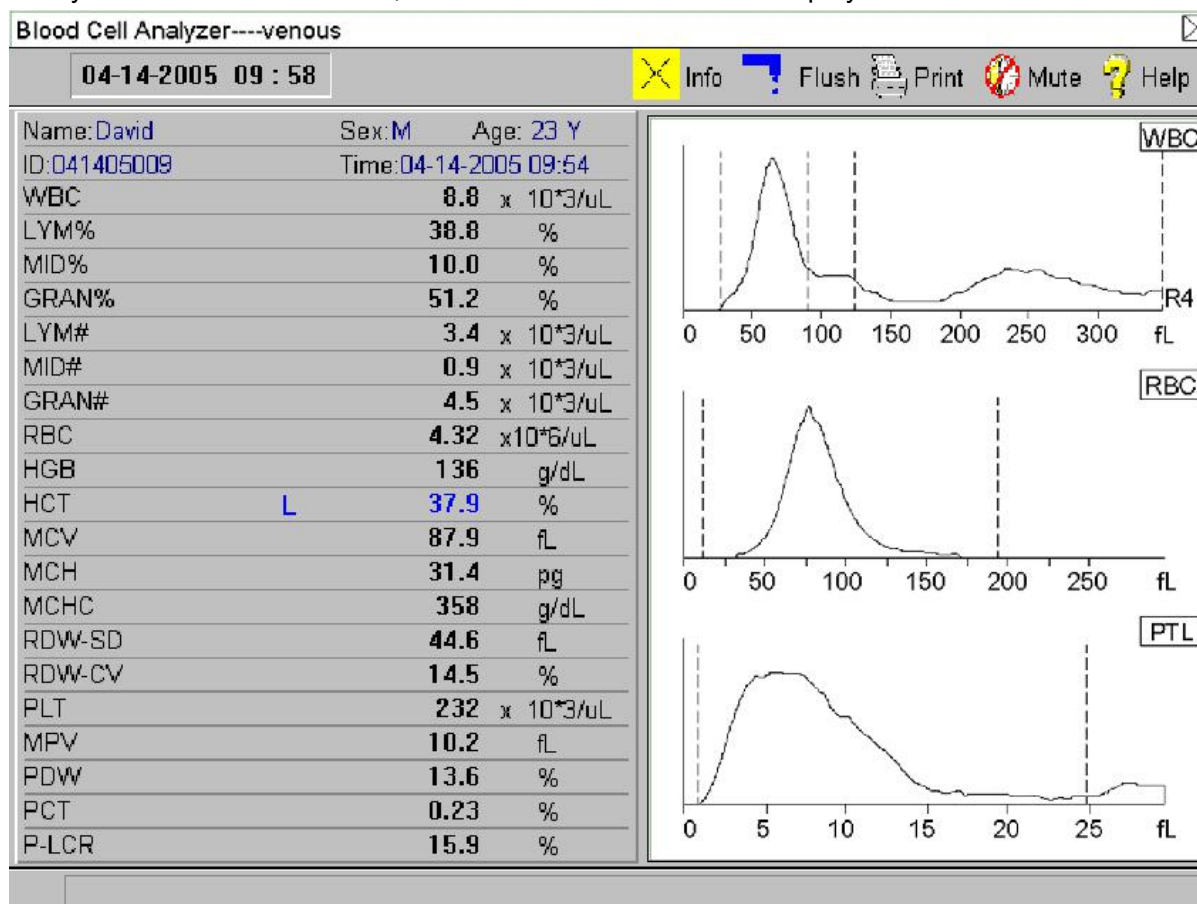

Figure 3-1
After self-test, the instrument will access blood cell analyze window, as shown in figure 3-1
- c) After the analysis finished, the result will be displayed in the rear of the corresponding parameters on blood cell analyze window of the instrument, with histograms WBC, RBC, PLT .As shown in figure 3-1.